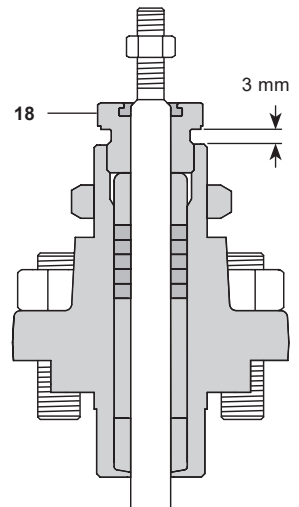

Fig. 12
- Tighten the gland nut (18) until:
- ii) Graphite gland assembly: A gap of 3mm between the underside of the gland nut and the bonnet is achieved. See Figure 12.
- Refit the lock-nut (3).